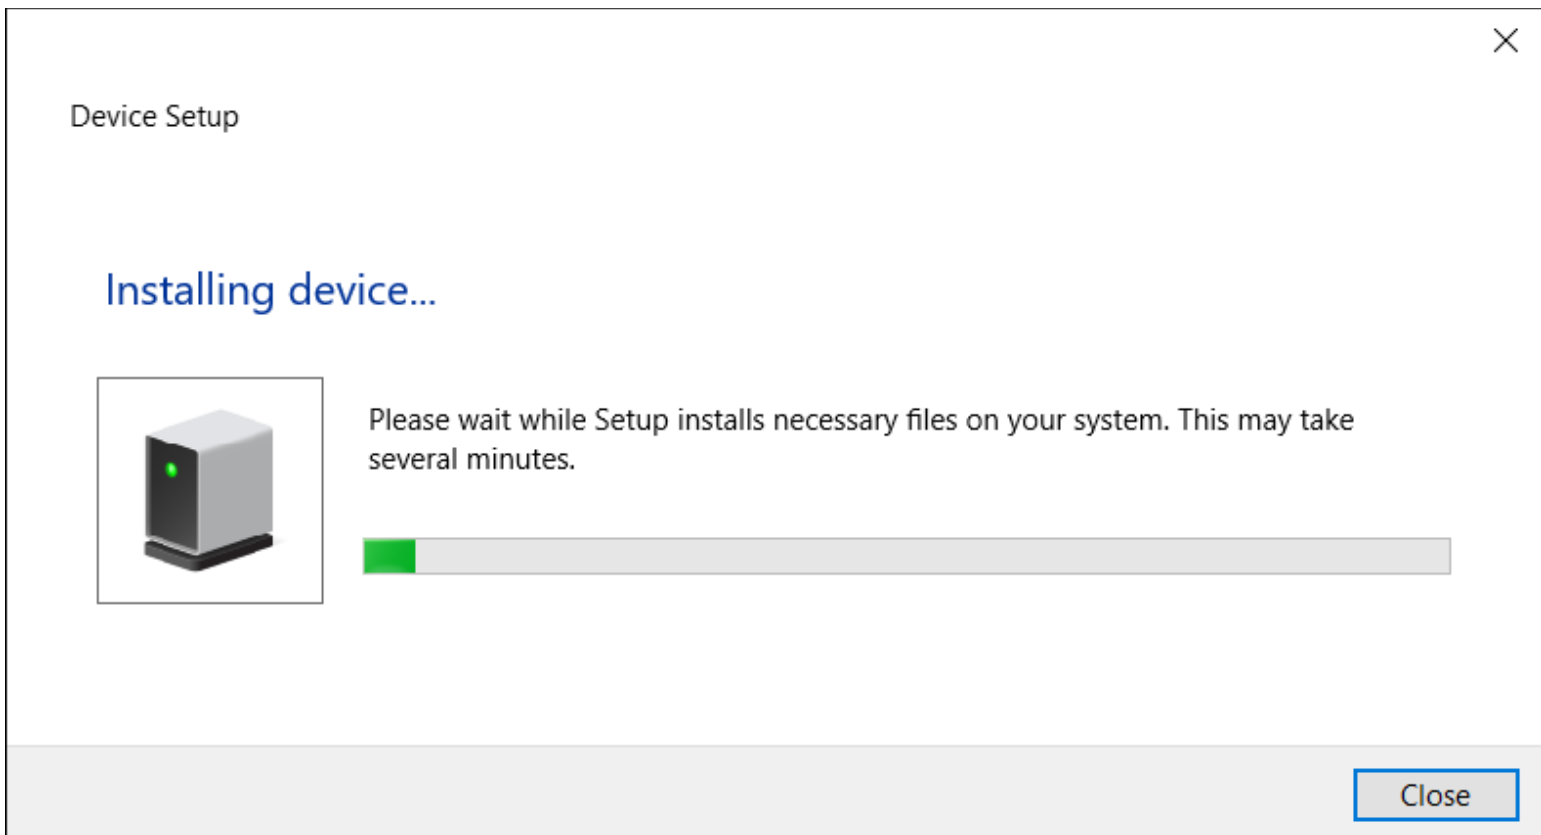

Figure 2-1 Windows Driver Installation
- 3) The first time you connect your M10 board to the PC, Windows may prompt a message dialog for driver installation, like the one shown in Figure 2-1.